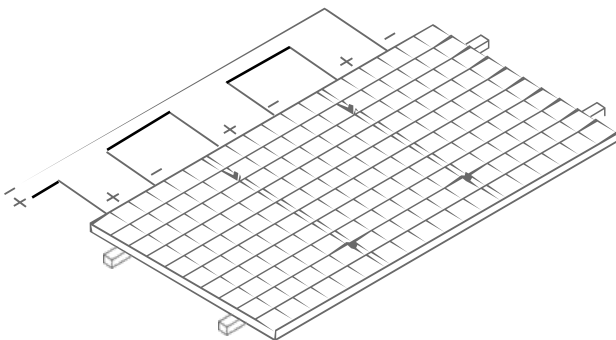

Figure 5. Connection in Series
- It is not allowed to use different models of Modules in the same solar photovoltaic system. When the Modules are connected in series, the voltage of every string shall not be higher than the maximum voltage of the system (as shown in Figure 5). Reference equation of the maximum number of the Modules in serial connection: maximum system voltage of the module/ (1.25\* open-circuit voltage), Please refer to the country's or local regulations for details.